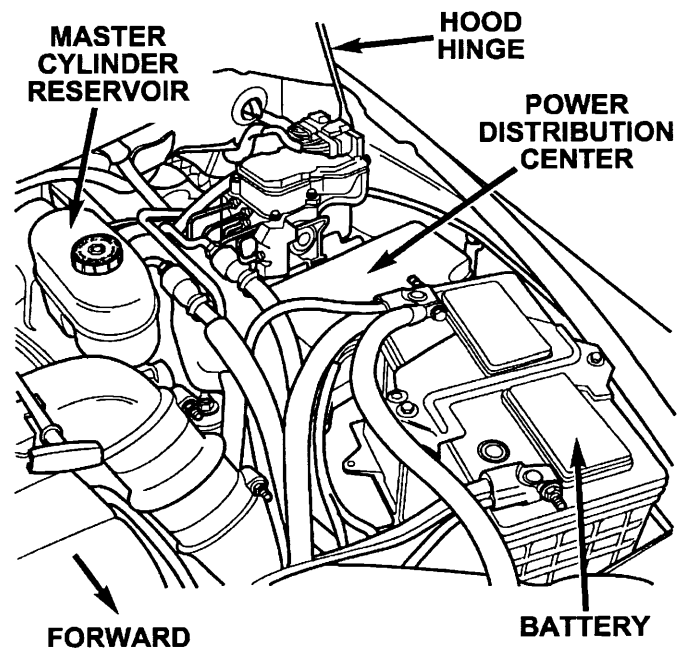

Figure 1 – Diesel Engine Shown
3. Remove the cover from the Power Distribution Center (PDC). The PDC is located on the left (driver’s) side of the engine compartment, next to the battery (Figure 1).